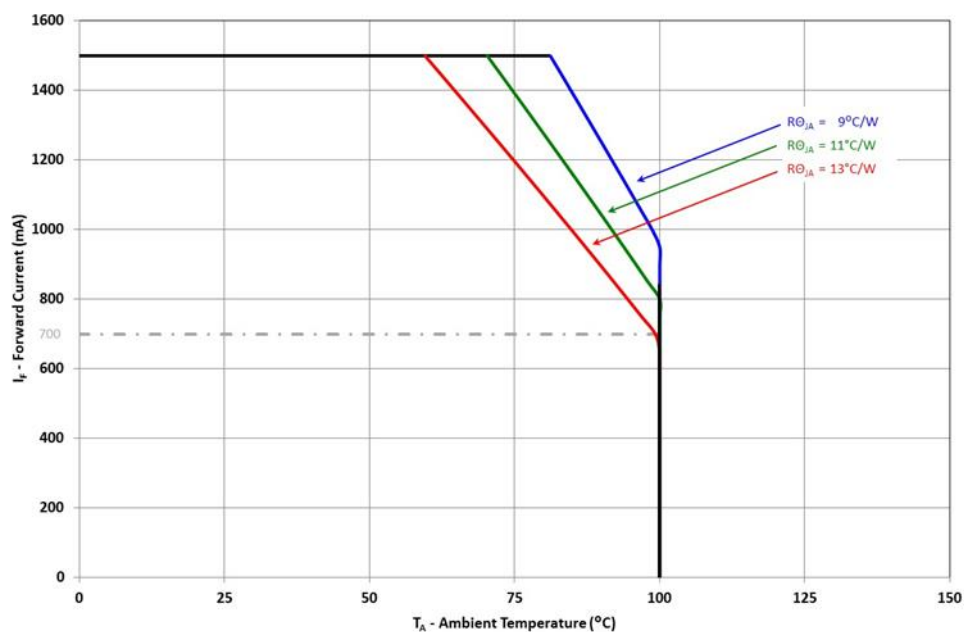

Figure 11: Maximum forward current vs. ambient temperature based on T_J(MAX) = 130°C.
- Maximum DC forward current is determined by the overall thermal resistance and ambient temperature. Follow the curves in Figure 11 for *Current Derating*.
Notes for Figure 11: